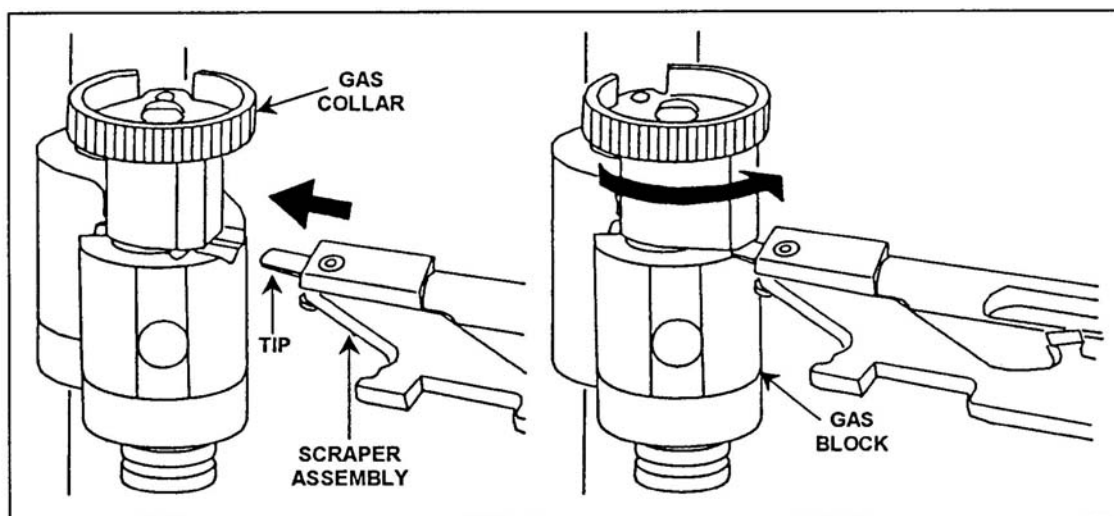

Figure 9. Insertion of the scraper assembly.
- (1) Position the gas collar so you can insert the scraper assembly into the notch in the front left of the gas block.
- (2) Insert the tip of the scraper assembly in the notch; hold the scraper firmly in position (Figure 9).